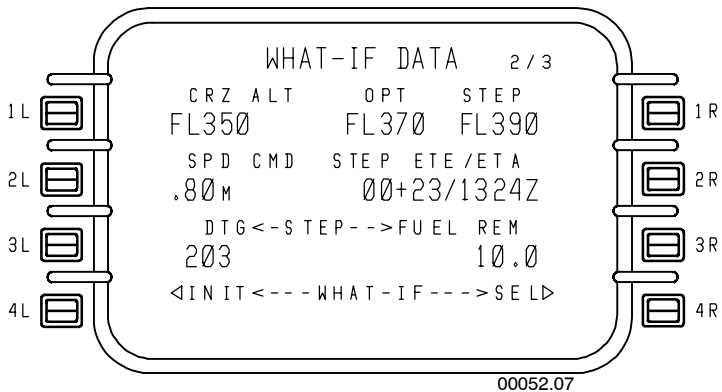

Figure 5-42
- **WHAT-IF DATA 2/3** - Figure 5-42 displays the same data as the CRUISE 1/2 page. However, the data applies to the WHAT-IF initialization only. Refer to Cruise, on page 5-40, for additional details.